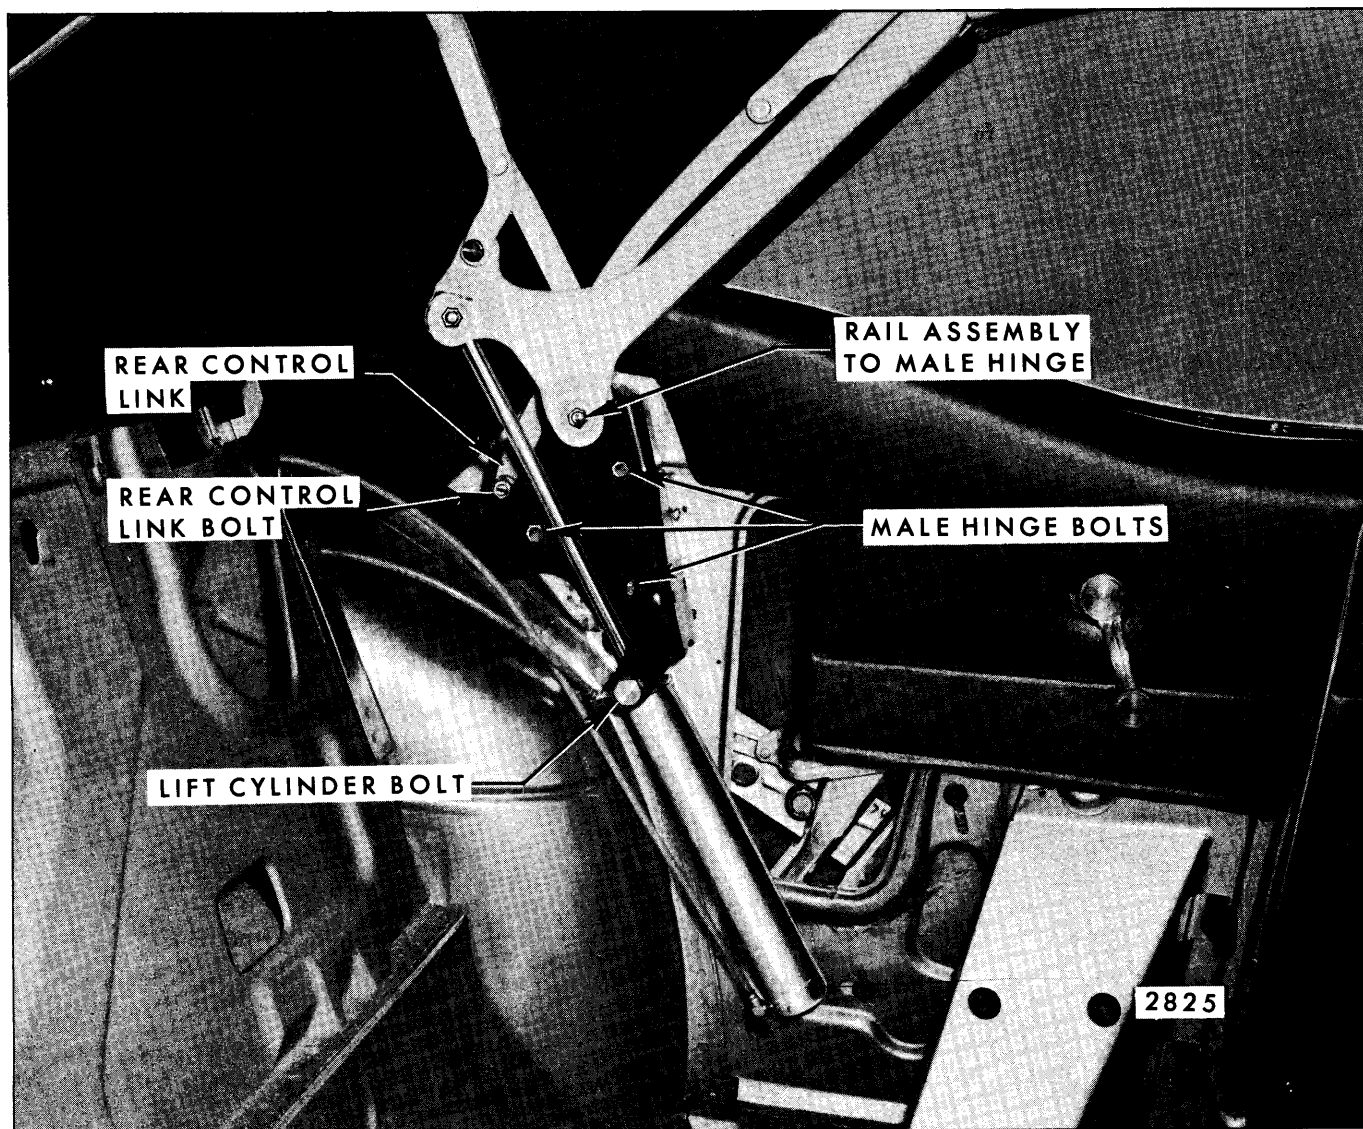

Fig. 13-65—"A" Body Hydraulic Lift Cylinder Attachment
6. Remove attaching nut, bolt, bushing and washer from upper end of cylinder rod, Figures 13-65 and 13-66.